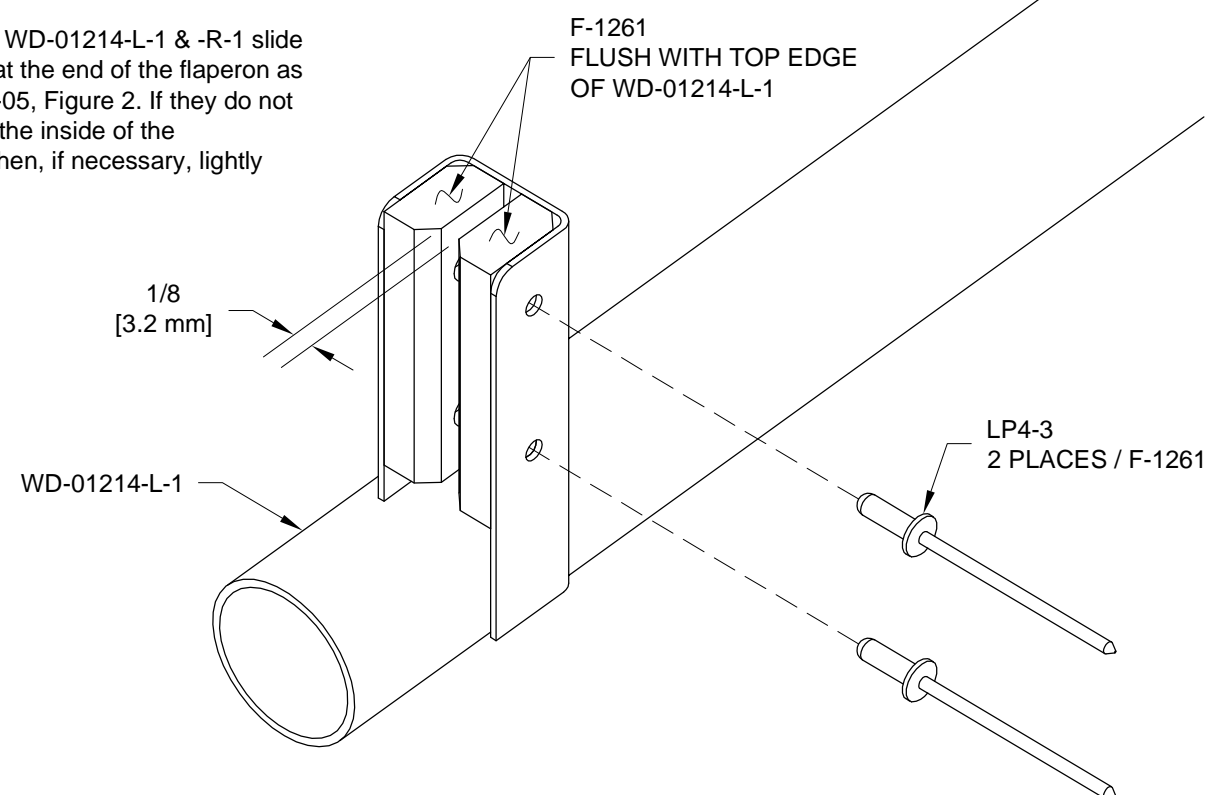

FIGURE 2: ATTACHING THE F-1261 SPACERS
Step 5: Ensure that the WD-01214-L-1 & -R-1 slide freely onto the A-1211 at the end of the flaperon as shown on Page 38iS/U-05, Figure 2. If they do not slide freely, first deburr the inside of the WD-01214-L-1 & -R-1 then, if necessary, lightly sand the A-1211.